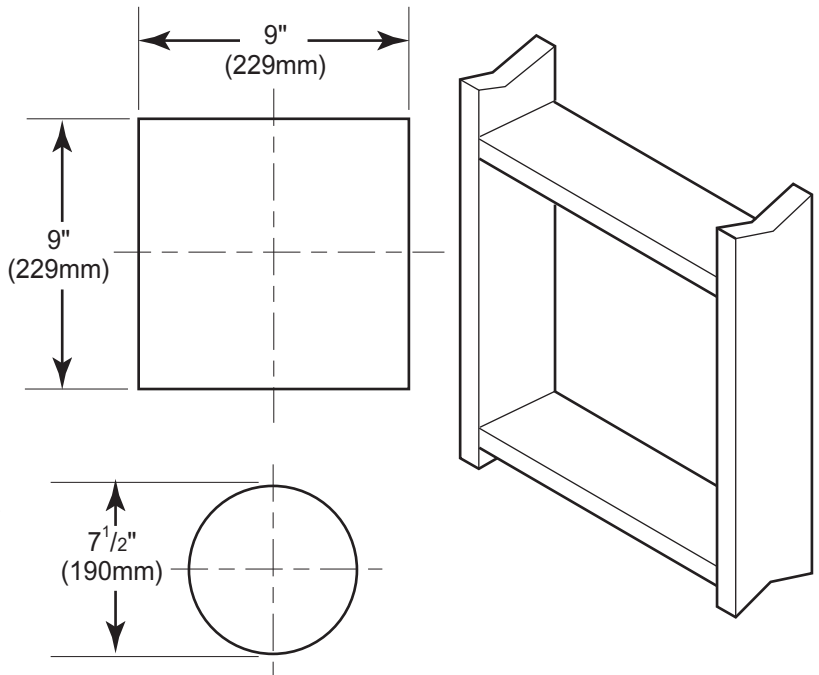

Figure 12 - Vent Opening Requirements
Combustible Walls: Cut a 9 "H x 9" W (229 mm x 229 mm) hole through the exterior wall and frame as shown. See Figure 12.
Cut a 9"x9" (229mm X 229mm) rectangle hole through combustible exterior wall 7½" (190 mm) diameter hole if noncombustible). Frame as necessary. Allow ¼" minimum rise per foot. See Figure 12.
1. Establish vent hole through the wall. *See Figure 12, page 17.*